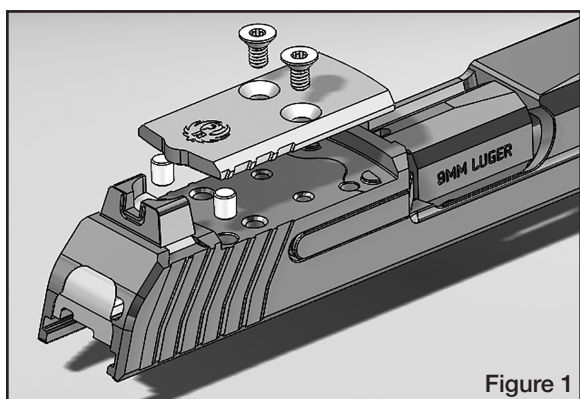

Figure 1
2. Using a T10 (Torx®) wrench (provided), remove the two screws retaining the optics plate cover (see Figure 1). Be sure to keep the screws and the optics plate cover for future re-installation.